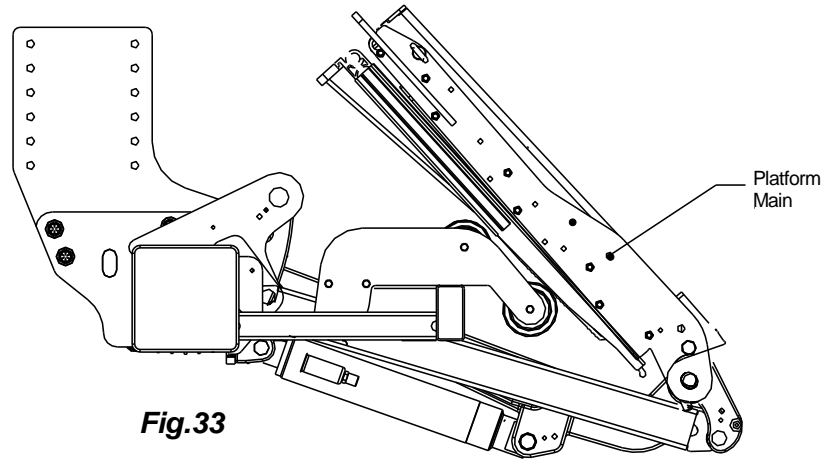

Fig.33
1. Torsion Cam Installation: To change the amount of platform spring assist, position the gate as shown below with the platform resting on the parting wheel, **Fig.33**. The adjustment cam is installed with no tension when shipped from the factory, **Fig.34**.